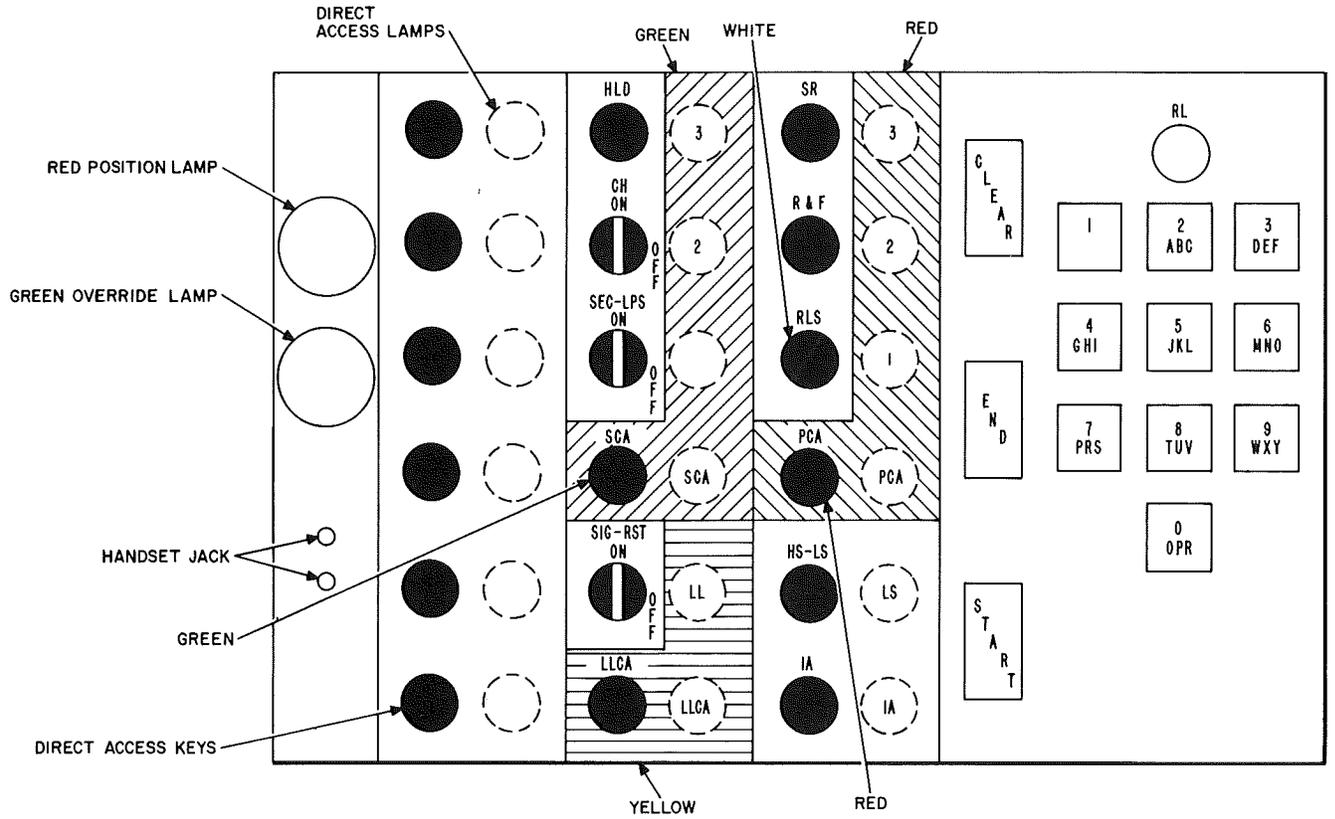

Fig. 5—Computer Complex Console Position J53026HK-Panel Layout
▶CENTRAL COMPUTER COMPLEX CONSOLE POSITION (Fig. 5)